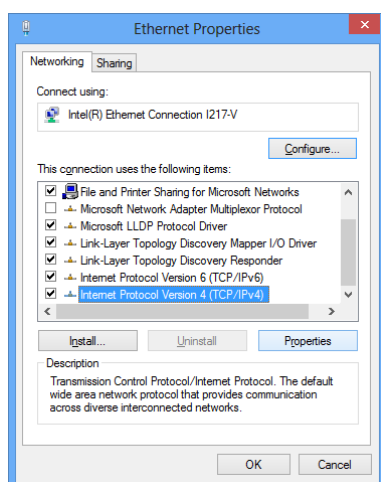

Fig. 4.8: Windows "Ethernet Properties"
4. Click on "Internet Protocol Version (TCP/IPv4)" and select "Properties" (**Fig. 4.8**).